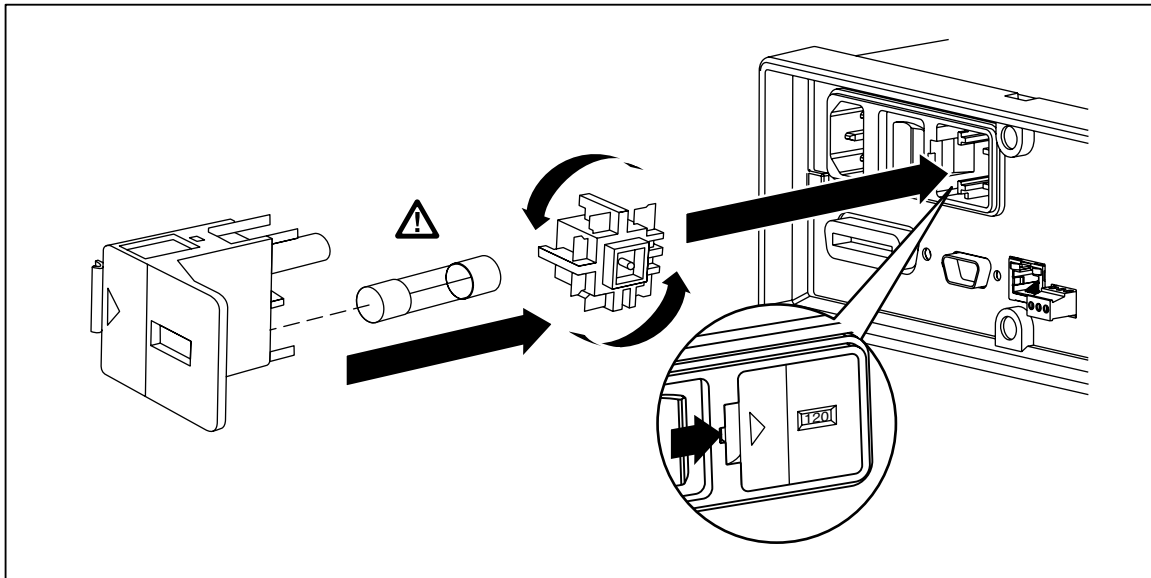

Figure 2-1. Line Fuse Replacement
2. Remove the fuse holder by inserting a small screwdriver blade in the narrow recess to the left of the fuse holder and pry to the right until the holder pops out, as shown in Figure 2-1. The Meter is shipped with a replacement fuse of the same rating as the fuse installed in the fuse block.